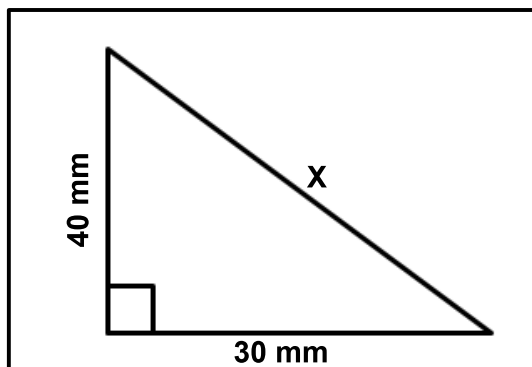

FIGURE 11.2
11.2 FIGURE 11.2 below shows a right triangle. Calculate the value of X.